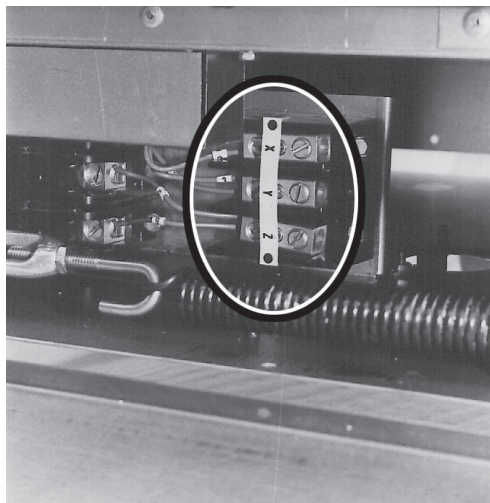

Fig. 47
2. Using a large flat head screwdriver, note and remove wiring from the terminal block connection points. (Fig. 47)